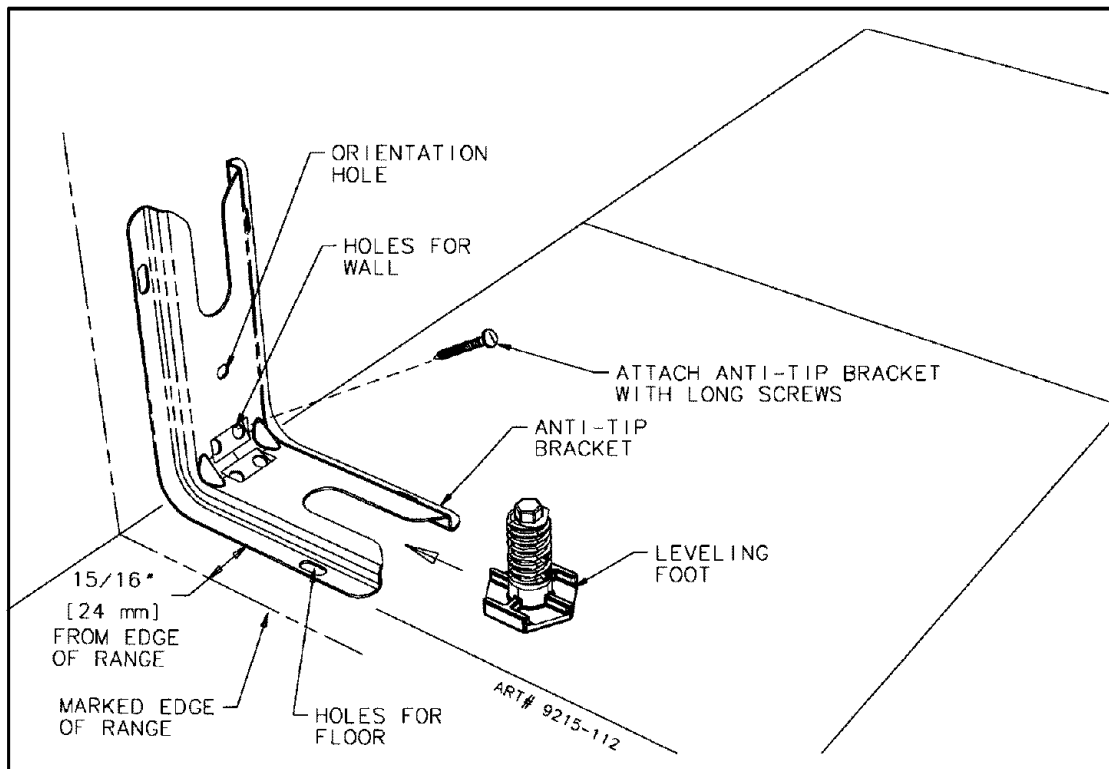
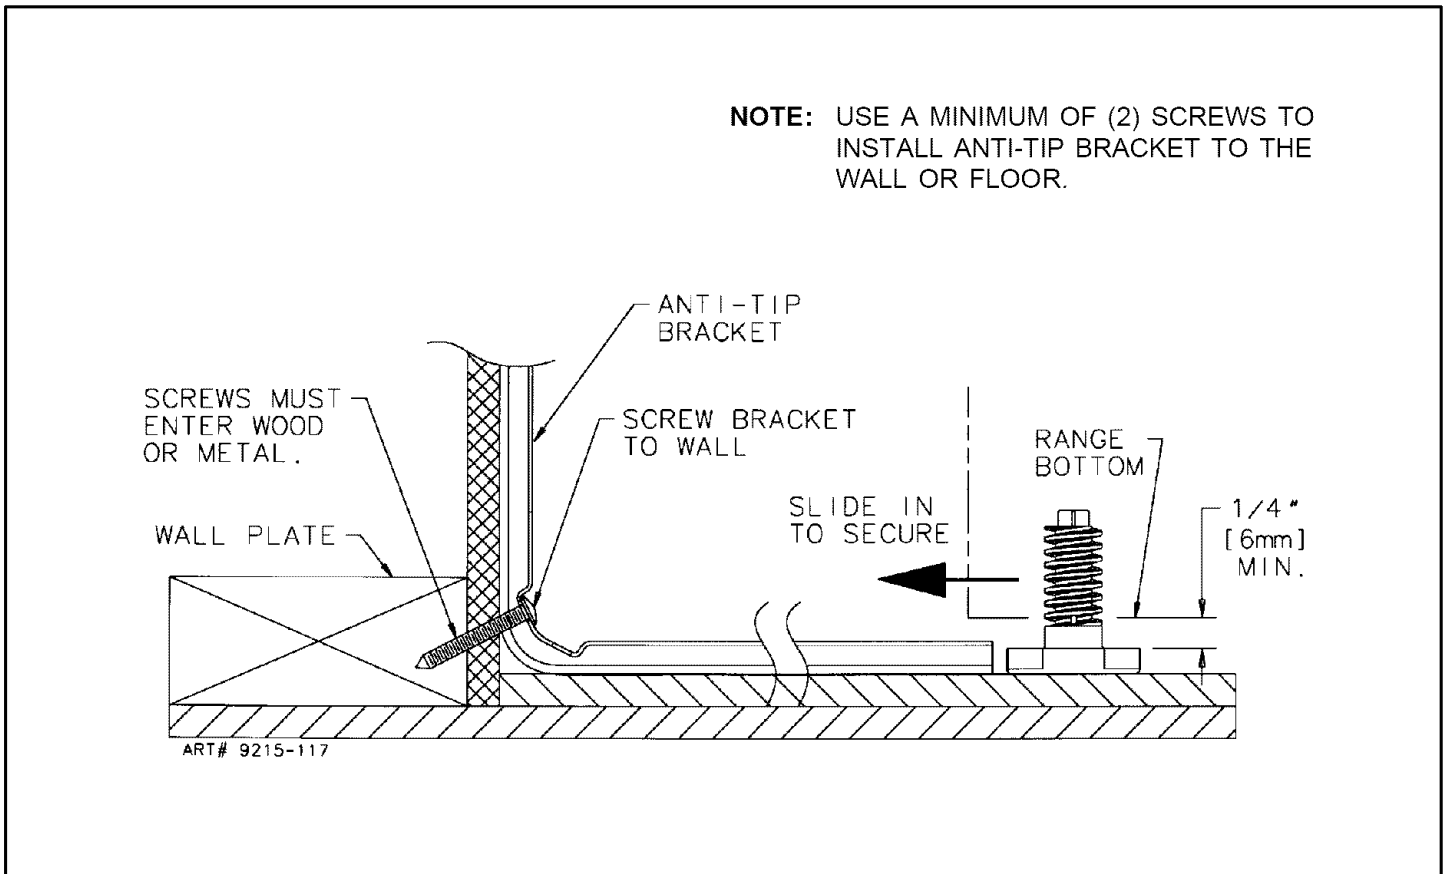

FIGURE 3
FIGURE 4
STEP 1 - Locating The Bracket (See Figure 3)
- Place the BRACKET $15/16"$ (24 mm) from the marked "EDGE" toward center of opening and against the back wall, as shown in figure 3, with orientation hole against wall.
- Use the bracket as a template and mark the required holes, as shown in figure 3 for the type of construction you will be using.
- Floor: Locate the center of the two holes identified in figure 3 as "HOLES FOR FLOOR". Drill a $1/8"$ (3 mm) pilot hole in the center of each hole (a nail or awl may be used if a drill is not available). Secure the ANTI-TIP bracket to the floor with the two screws provided. Proceed to Step 3.
- Wall: Locate the center of the two holes identified in figure 3 as "HOLES FOR WALL". Drill an angled $1/8"$ (3 mm) pilot hole in the center of each hole as shown in figure 4. (A nail or awl may be used if a drill is not available). Secure the ANTI-TIP bracket to the wall with the two screws provided as shown in figure 4. Proceed to STEP 3.
- Suitable screws for concrete construction can be obtained at the hardware store. Drill the required size hole for the hardware obtained into the concrete at the center of the holes identified in figure 3 as "HOLES FOR FLOOR". Secure the ANTI-TIP bracket to the floor. Proceed to STEP 3.
- B. Align the range to its designated location and slide it back into position. Note: A minimum clearance of 1/4" (6 mm) is required between the range and the leveling foot that will engage the ANTI-TIP bracket, see figure 4.